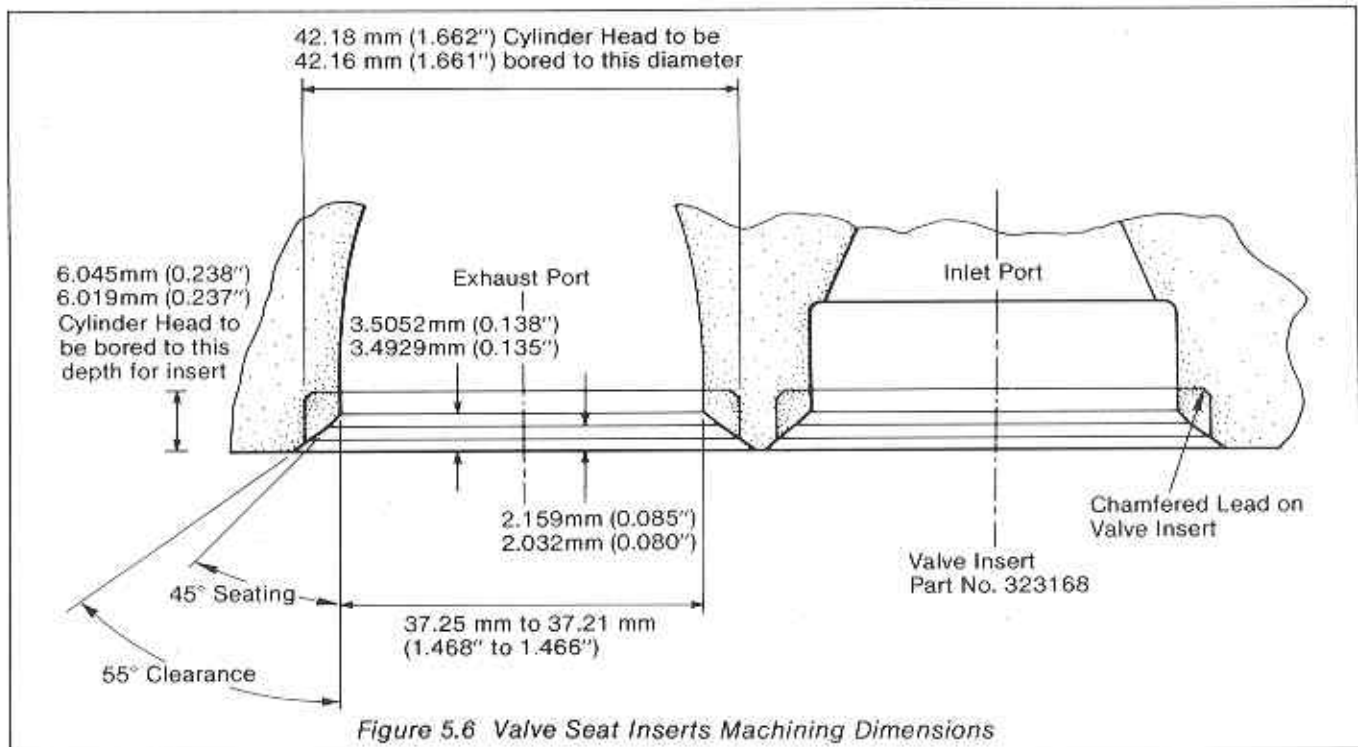

Figure 5.6 Valve Seat Inserts Machining Dimensions
- (1) Bore each valve port to the dimensions shown in Figure 5.6. It is essential not to machine the cylinder head beyond the dimensions shown.
- (2) Press the valve seat inserts chamfered end first into the cylinder head.
- (3) Machine the valve seats concentric to the valve guide bore to the dimensions shown in Figure 5.6.